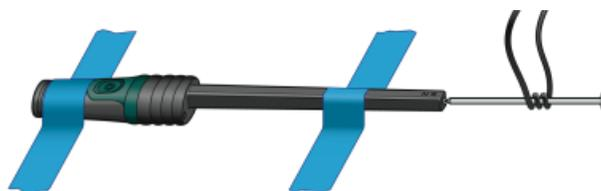

Figure 1
1. Tape the sensor to the tabletop as shown in Figure 1.
- b. Get a large iron nail and place its pointed end next to the end of the Magnetic Field Sensor as shown in Figure 1. When the reading has stabilized, click or tap Keep.
6. Place the nail on the wire at a position 10–15 cm from the battery. Tightly wind the wire around the nail 3 times as shown in Figure 1.